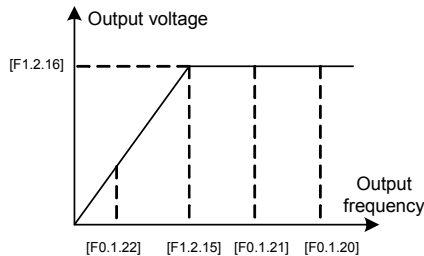

Figure 7-10 Frequency parameter definition sketch
The maximum output frequency, upper limiting frequency and lower limiting frequency shall carefully set according to the actual nameplate parameters and operating status of the controlled motor and. The relationship among the three kinds of frequency is shown in Figure 7-10.
- [F1.2.15] in Figure 7-10 represents the motor's reference frequency, and [F1.2.16] represents the motor's reference voltage.